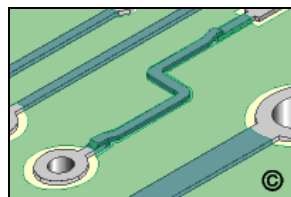

Figure 6: Coat the top and sides of the Circuit Track with Epoxy.
15. Coat the top and sides of the Circuit Track with Epoxy. A Wood Stick or Plastic Probe may be used to apply the Epoxy. (See Figure 6).